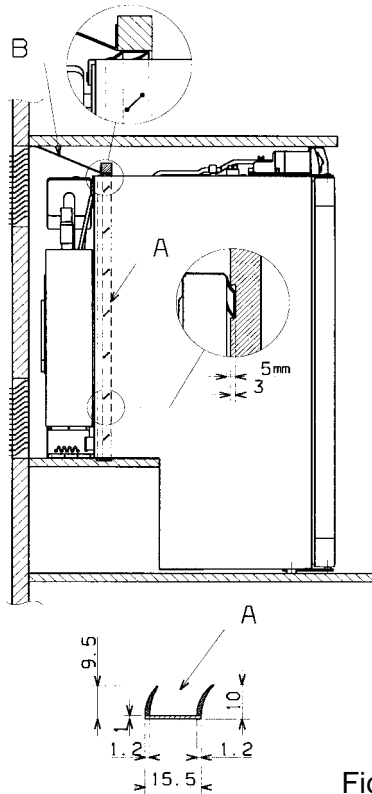

Fig.1
If the appliance is installed on the same side of the vehicle as the entrance door, it is desirable that the door does not cover the refrigerator's vents (fig. 1, gap between door and vent grille min. 25 mm). Otherwise ventilation could be impaired which causes a loss in cooling performance. Awnings are often placed at the door side of a caravan. This complicates discharge of combustion gases and heat through the ventilation grilles (loss in cooling performance)!
**(Fig.1)** Air vent grille blocked. There must be a distance between the door and the air vents of at least 25 mm! If the door/grille distance is between 25mm and 45 mm, we recommend installing a **Dometic ventilation kit (spare part no. 241 2985 - 00/0)** to achieve an optimal cooling performance in high ambient temperatures.
Insert deflector plate (B), fitted with a lipped seal (A) of heavy-duty, nonflammable material, into the installation recess (see Fig. 1).
In addition, discharge plate (B) with its lipped seal (A) must seal the refrigerator off from the living area (see Fig. 1).